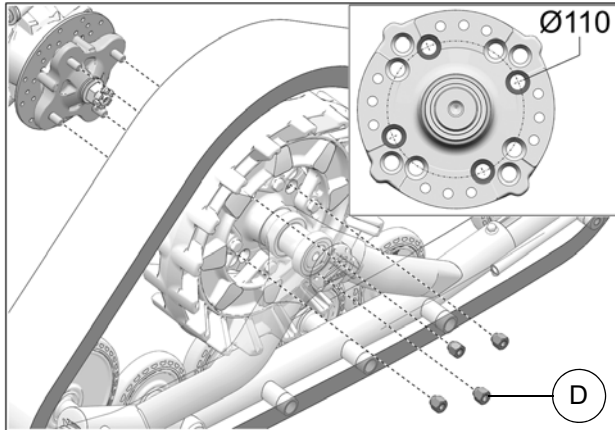

Fig. 10
9. Secure undercarriage to rear hub using the provided M10 lug nuts (D). Use bolt circle $\text{Ø}110$ mm. See Fig. 10